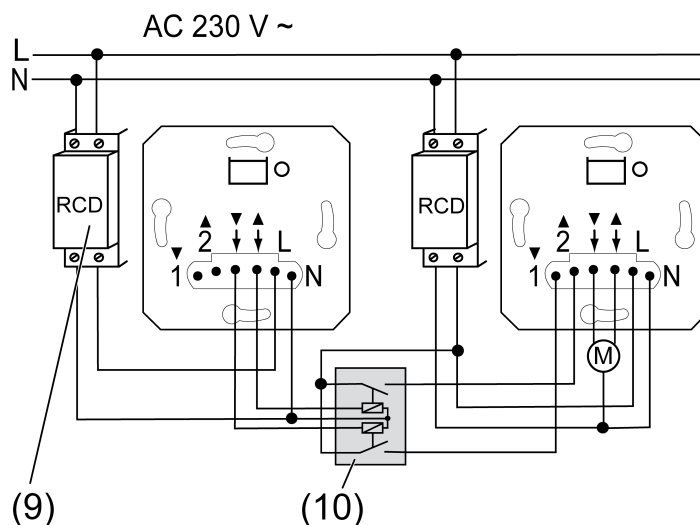

Figure 4: Connection example of two RCD circuits
- Connect the devices according to the connection example (Figure 4).